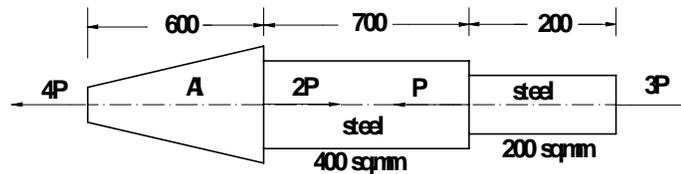

Fig.1(c)
- 1 a. Define i) Poisson's Ratio ii) Bulk modulus iii) Factor of safety. (03)
- b. Derive an expression for deformation of a tapering rectangular bar of widths 'b'₁ and 'b'₂ and thickness 't' when it is subject to an axial force 'P'. (07)
- c. For the component shown in fig. 1(c), determine the magnitude of force P, such that net deformation in the bar does not exceed 1 mm. E for steel is 200 GPa and that for Aluminum is 70 GPa. Big end diameter and small end diameter of the tapering bar are 40mm and 12.5mm respectively. (10)